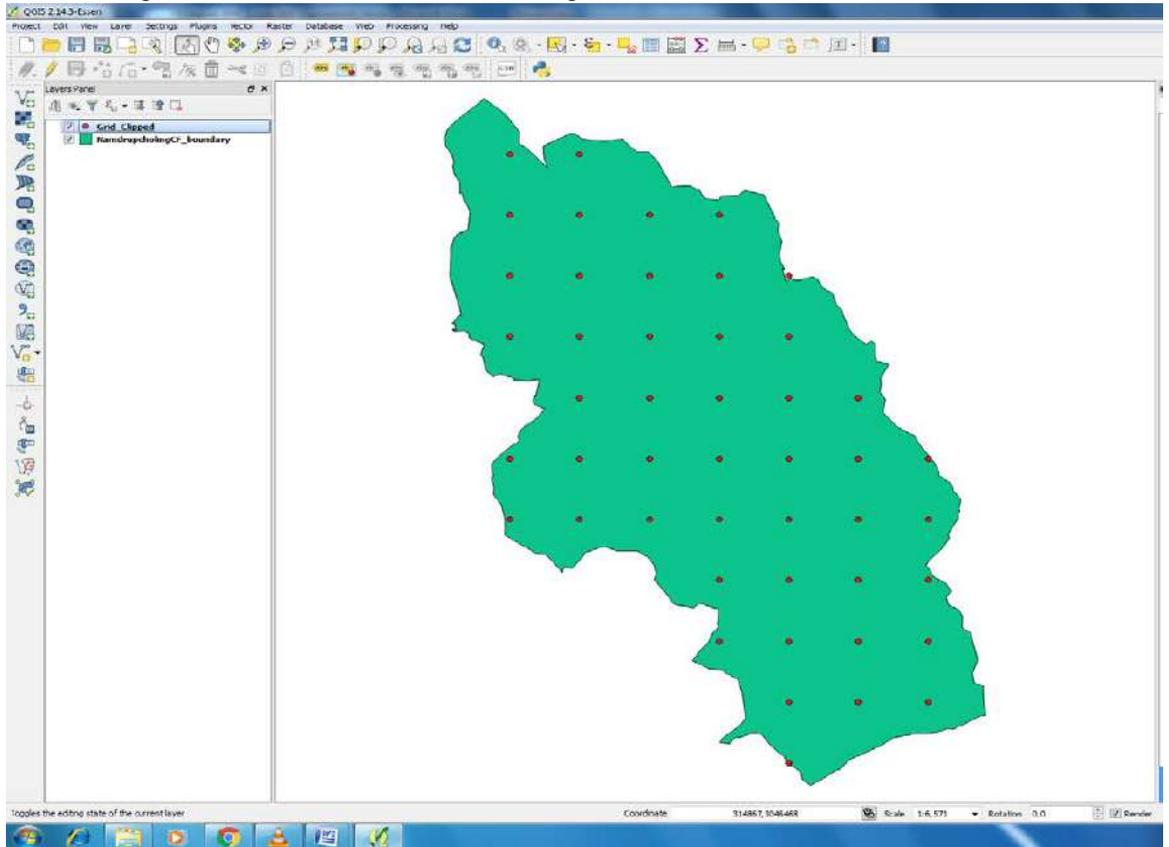

Figure 8e
- The final grid of the CF is created as shown in the Figure 8e below.